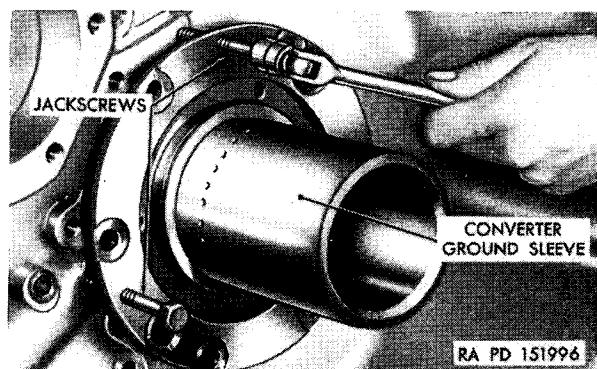

Figure 257. Separating converter ground sleeve from left housing.
j. **CONVERTER GROUND SLEEVE.** Using a $\frac{1}{16}$ -inch socket, remove the six bolts which secure the converter ground sleeve assembly to the housing. Separate the ground sleeve from the housing using three $\frac{3}{8}$ -inch jack screws (fig. 257). Remove the ground sleeve.